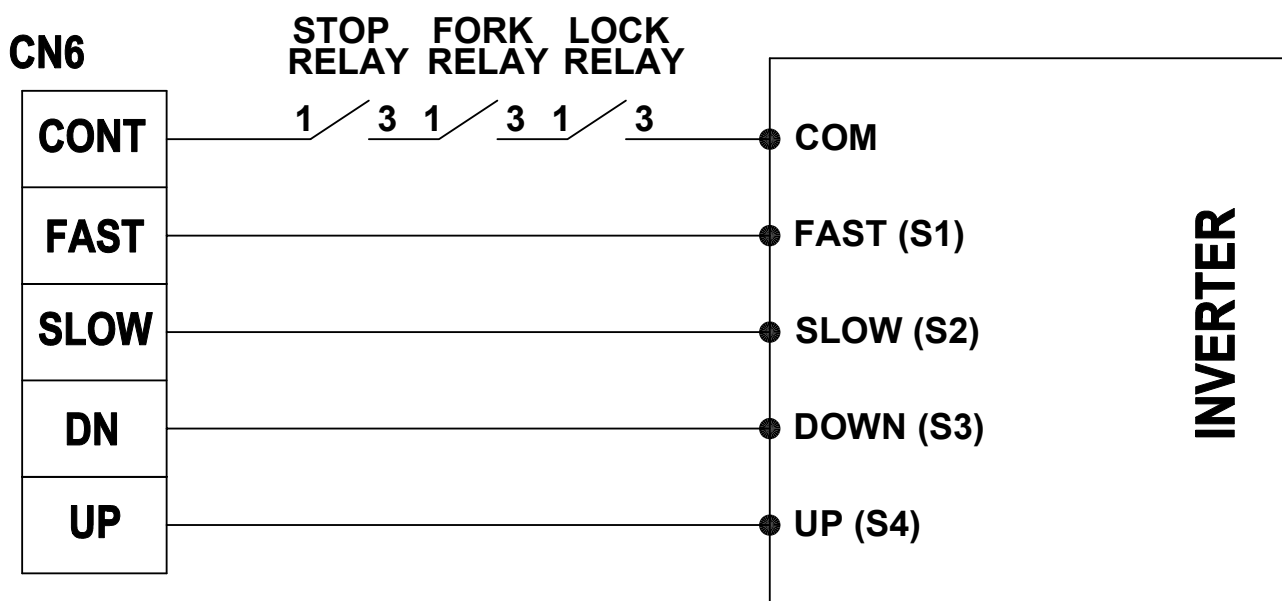

Figure 16.0 - Inverter System Connections
The terminals of the Inverter System are connected as illustrated in Figure 16.0.
- The motor speed and direction signals connector (CN6) are connected as illustrated in Figure 16.0.